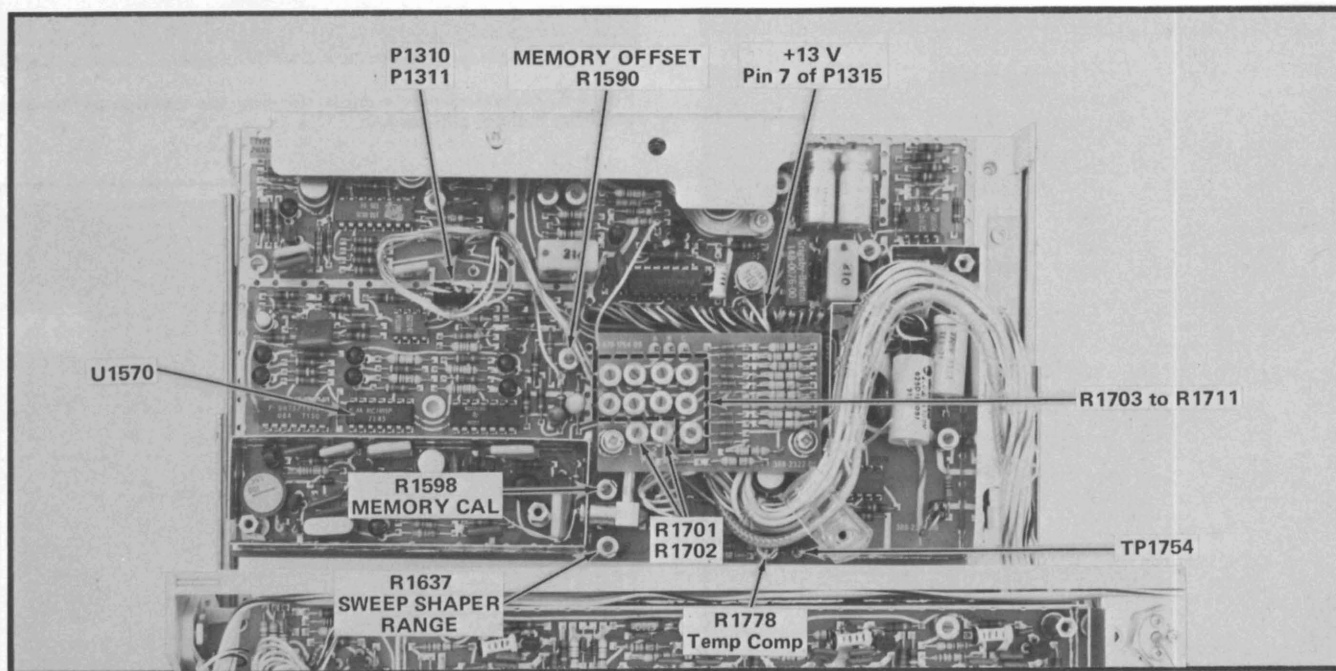
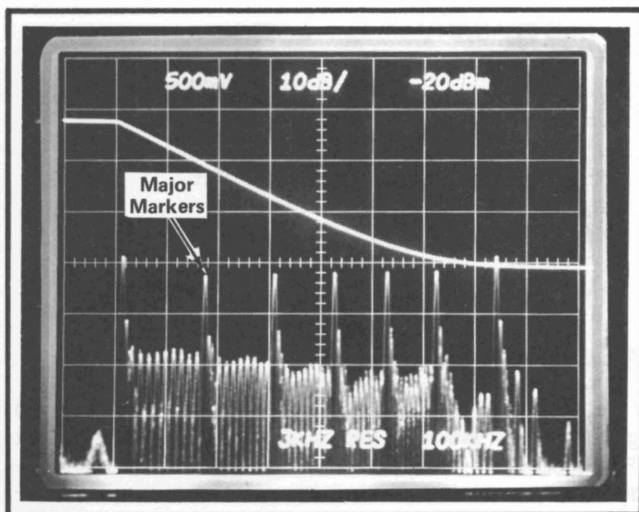

Fig. 4-7. 2nd LO and sweep shaper adjustments and test points.
Fig. 4-8. Chop mode display, that illustrates; the sweep ramp to the sweep shaper circuit at TP1754 and the analyzer display of the frequency markers.
a. Establish a 0 V reference for the vertical amplifier display, by grounding the probe tip and position the trace to the graticule center. Now connect the 10X probe to pin 7 of P1315 on the phase lock board (Fig. 4-7).
b. Adjust Temp Comp R1778 (Fig. 4-7) for +13 V DC at pin 7 of P1315. (+ supply to the 2nd LO.)
c. Change the probe from pin 7 of P1315 to TP1754 (Fig. 4-7).
d. Preset R1701-R1702 (sweep shaper board) and R1637-R1598 (Fig. 4-7) fully CCW. Preset R1703 through R1711 (on the sweep shaper board) fully CW.
f. Adjust the FINE frequency control to center the sweep shaper voltage ramp and the markers on screen (see Fig. 4-8). Note: The number of markers may not equal those displayed in the illustration and it may be necessary to adjust R1637 (Fig. 4-7) to shift the display so it is within the graticule area.
g. If the 2nd LO is sweeping 6.5 MHz (6 to 7 major markers under the ramp, see Fig. 4-8) the Sweep Range of the 2nd LO requires no further adjustment. If the sweep range is incorrect, the Varactor assembly coupling (into the tuned cavity for the 2nd LO) must be changed. This is accomplished as follows:
7. Adjust the Sweep Shaper (Fig. 4-7)
d. Replace U1560 and pull P1311 (Fig. 4-7).